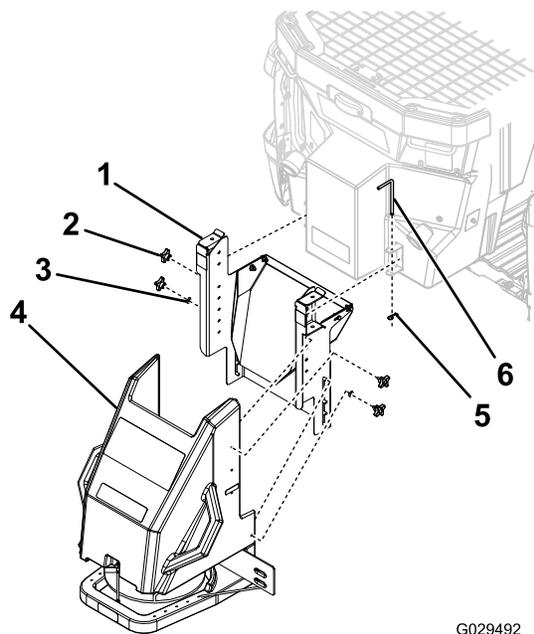

Figure 11
1. Attach the adjustment assembly to the spinner assembly using 2 flat washers (5/16 inch) and 4 thumb screws as shown in Figure 11. Tighten them 1/4-turn past finger-tight.
- Remove and retain the latch and cotter pins from the spinner assembly (Figure 11).
- Attach the spinner assembly to the spreader and secure it with the previously removed latch and cotter pins (Figure 11).